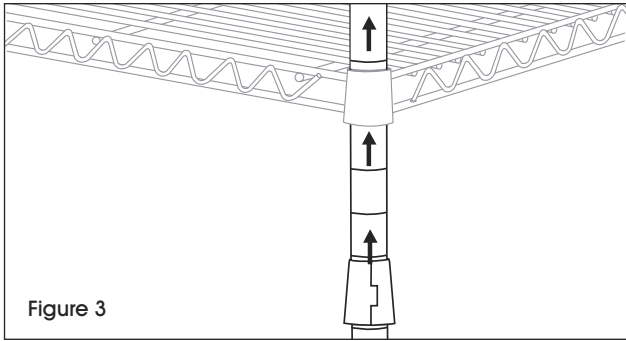

Figure 3
- Slide posts through underside of shelf until shelf slides firmly over supports. (See Figure 3)